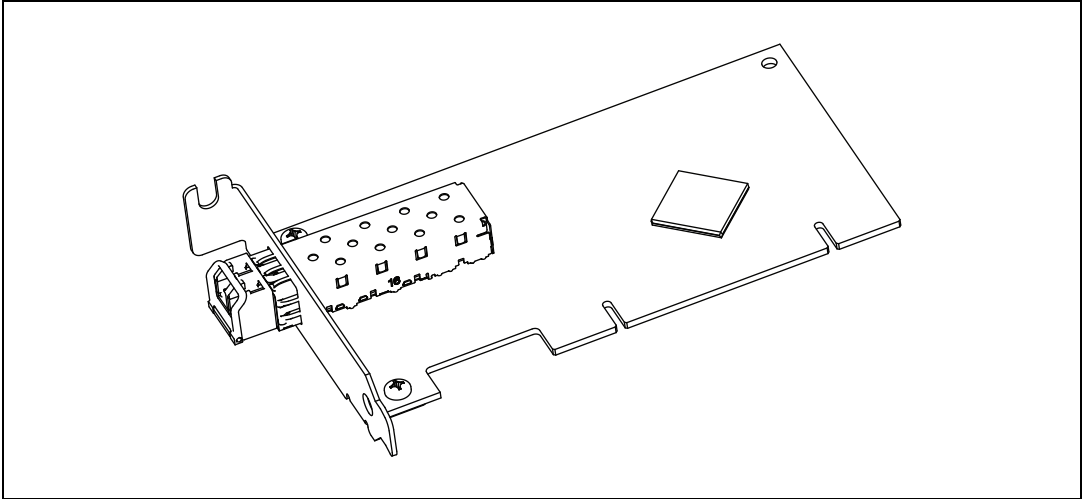

Figure D-3. Completed Low-Profile Bracket Installation on the NI PCI-8366
8. Hold the SFP module in the orientation shown in Figure D-1. Ensure the release lever is closed in its upright position and gently slide the SFP module into the SFP receptacle. The SFP module will click into place when fully engaged, as shown in Figure D-3.